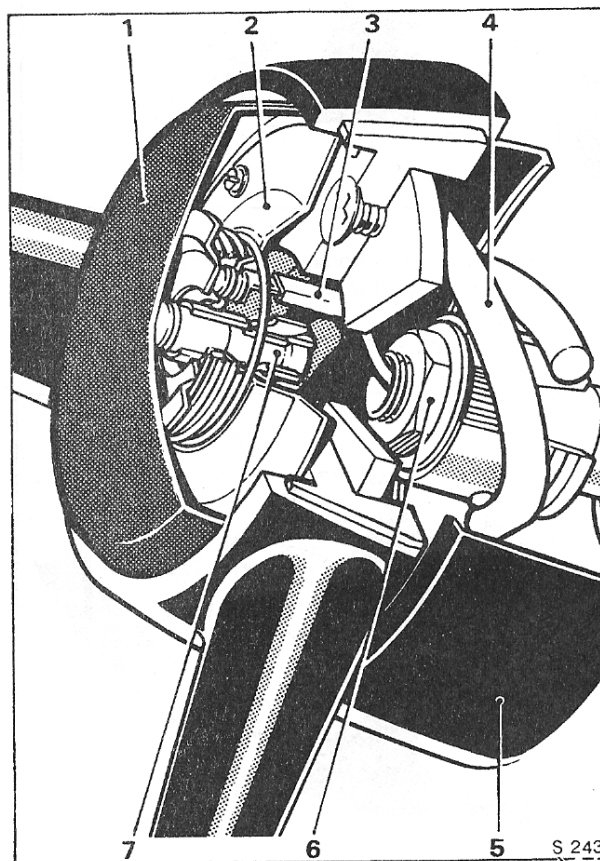

Fig. N27 Steering wheel components. Silver Shadow II, Silver Wraith II and Bentley T2
**Steering wheel - To remove (see Fig. N27)**